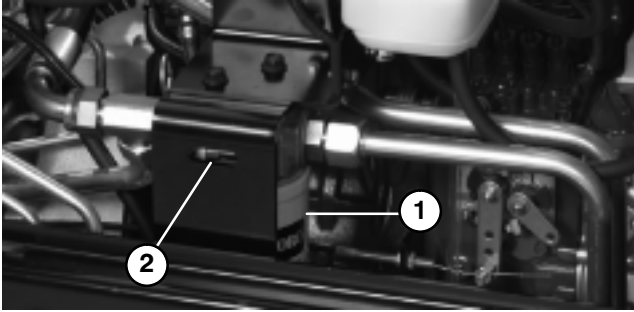

Figure 56
2. Clean area around filter mounting area. Place drain pan under filter and remove filter (Fig. 56).